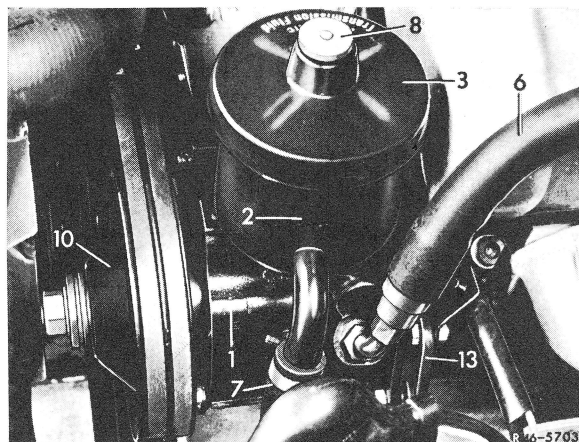

Fig. 1
1 Remove closing cover (3) and drain oil with syringe, since otherwise the oil will run out when unscrewing high-pressure expanding hose (6) (fig. 1).